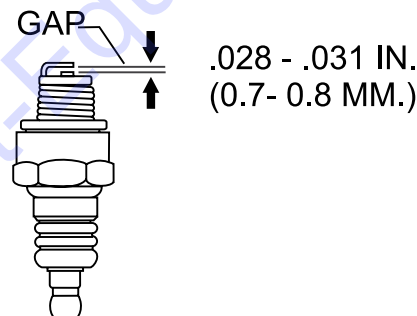

Figure 35. Spark Plug Gap
5. Measure the spark plug electrode gap (Figure 35) with a wire-type feeler gauge. If needed, adjust the gap to 0.7 - 0.8 mm (0.028 - 0.031 in), by carefully bending the side electrode.